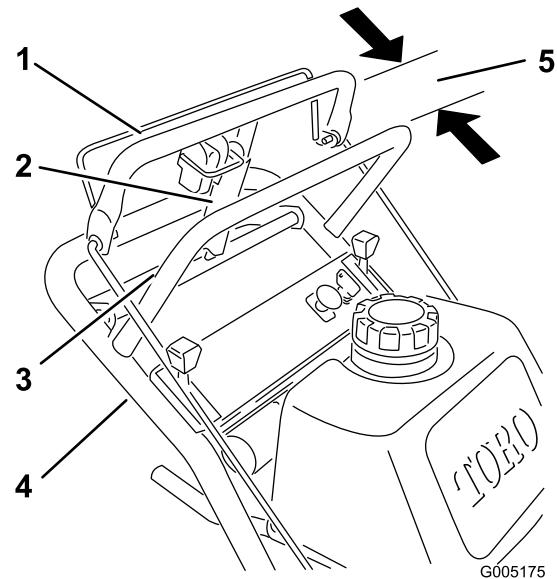

Figure 38
1. Check the gap between upper control bar and fixed bar with wheel drive fully engaged. The gap should be approximately 1 to 1-1/4 inch (25-32 mm) (Figure 38).